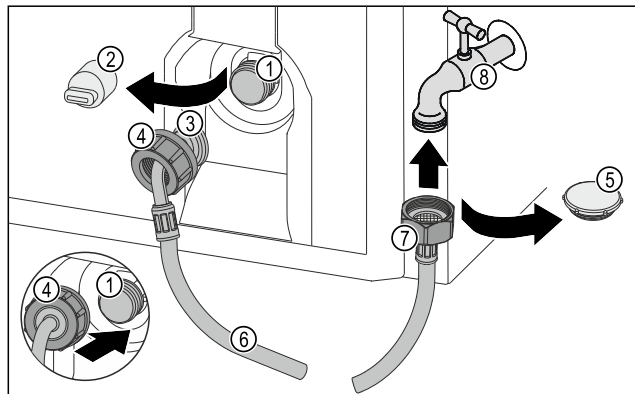

Fig. 33
- ▶ Remove the closure cap Fig. 33 (5).
- ▶ Place the straight end of the hose Fig. 33 (7) on the tap Fig. 33 (8).
- ▶ Tighten the nut at the straight end of the hose Fig. 33 (7) in a clockwise direction.